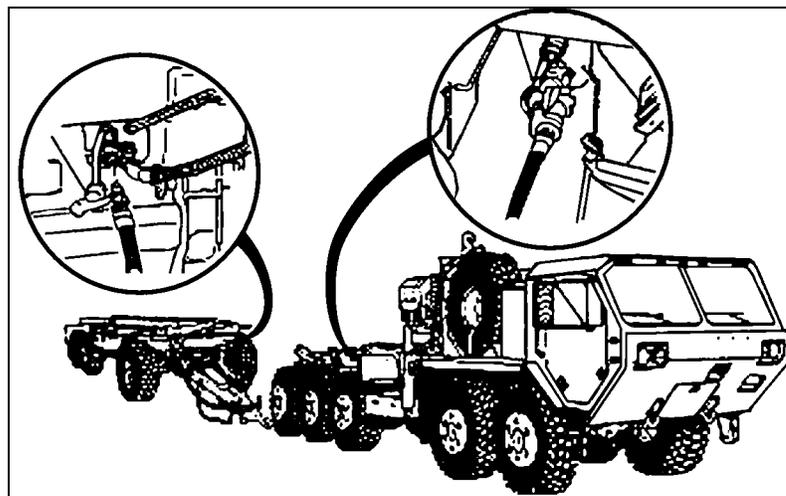

Figure 3-64. Air Coupler
- i. Connect charging hose glad-hand to emergency air glad-hand (see Figure 3-64).